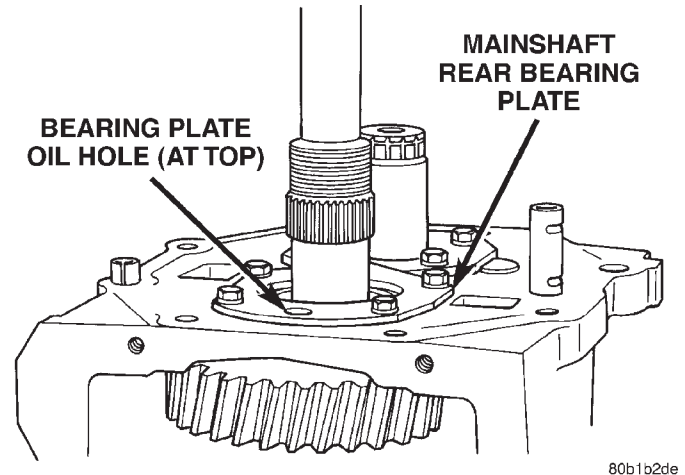

Fig. 128 Rear Bearing Plate Installation
- (1) Install mainshaft rear bearing.
- (2) Install mainshaft rear bearing cup in case and over bearing. Tap bearing cup into place with plastic mallet.
- (3) Install rear bearing plate to hold mainshaft and rear bearing in position (Fig. 128). Do not install any end play shims at this time.
- (4) Tighten rear bearing plate bolts securely.
- (5) Place gear case in upright position on bench. Either cut hole in bench to accept drive gear and front retainer, or use C-clamps to secure transmission on bench. Do not leave transmission unsupported.
- (6) Install Extension Rod 8161 into a suitable threaded hole in rear of case.
(7) Mount dial indicator on extension rod and position indicator plunger against end of mainshaft.
(8) Move mainshaft forward to remove all play. Then zero dial indicator.
(9) Move mainshaft upward and observe dial indicator reading. Move mainshaft with pry tool positioned between drive gear and case.
(10) End play should be 0.051-0.15 mm (0.002-0.006 in.). Select fit shims are available to adjust end play, if necessary.
(11) If end play adjustment is required, remove bearing plate and install necessary shim.
(12) Reinstall rear bearing plate (Fig. 128).
(13) Apply Mopar® Lock N' Seal, or equivalent, bearing plate bolt threads. Then install and tighten bolts to 23 N·m (200 in. lbs.) torque. Be sure oil hole in bearing plate is at top as shown.